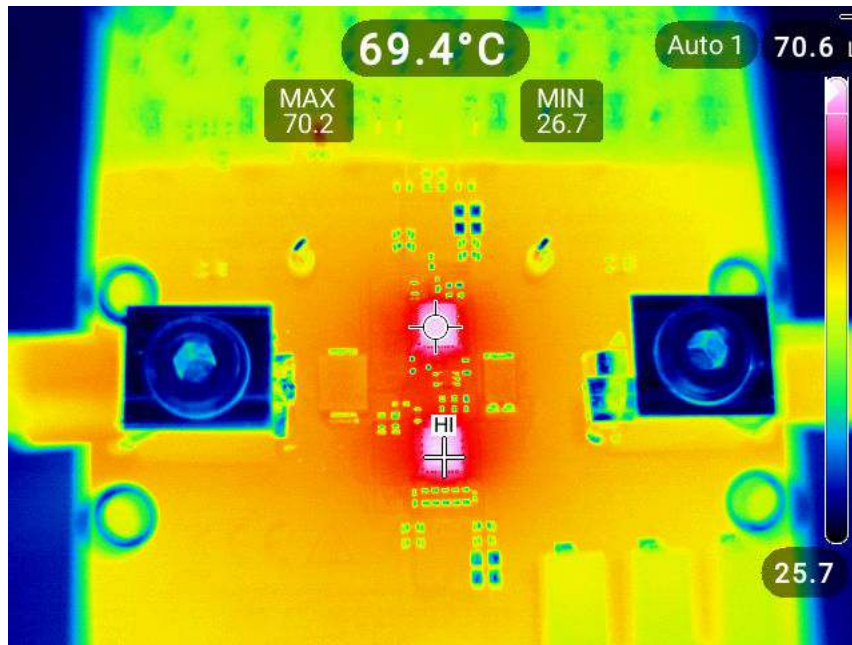

Figure 5-19. Thermal Performance of TPS25985EVM ($V_{IN} = 12\text{ V}$, $I_{OUT} = 100\text{ A}$, $T_A = 25\text{ }^\circ\text{C}$, and no external air flow)
Figure 5-19 shows the thermal performance of TPS25985EVM with two (2) TPS25985 eFuses in parallel.